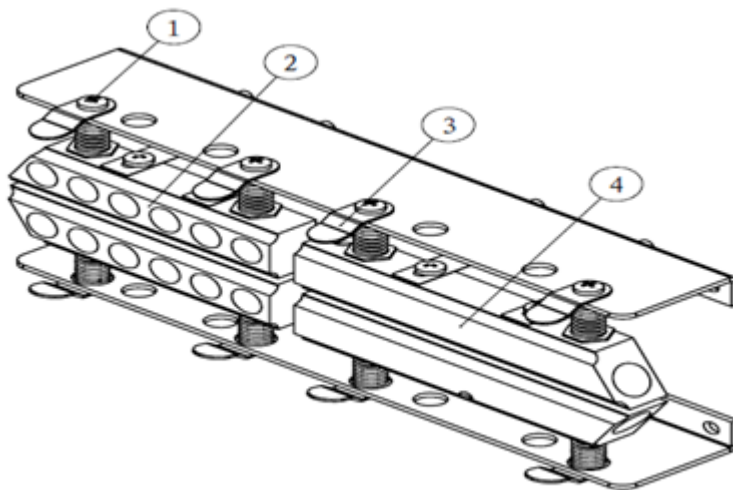

Figure 3
### **B. Adjustment method of sealing parts (Figure 3)**
**Sealing belt replace method & adjustment:** after the heating block cool down,, take down the protective cover, rotating the lifting piece ③ into 90°which on the heating block and cooling block in Figure 3, then loose the embossing wheel and the spring of